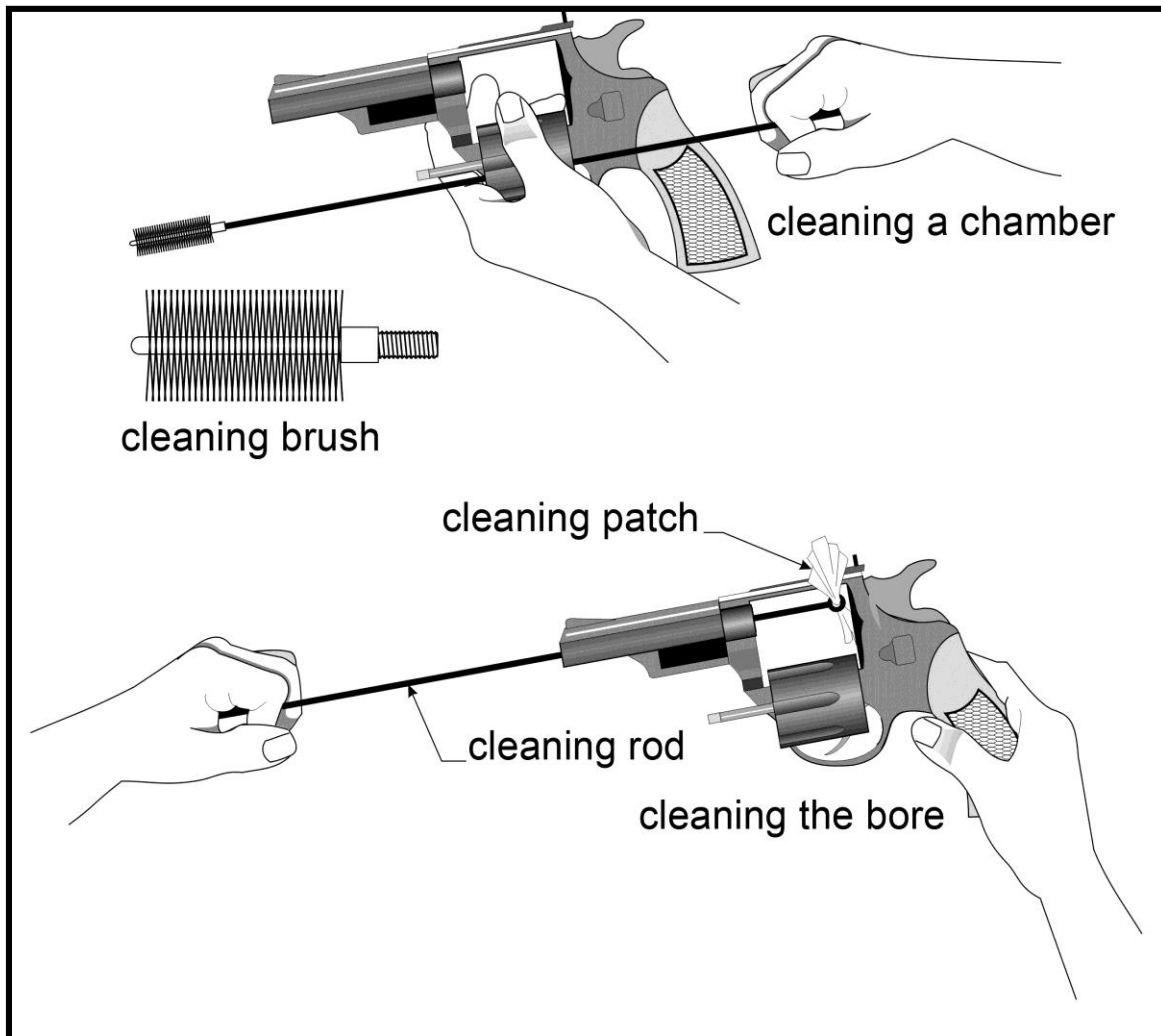

Figure 130. Cleaning a Double-action Revolver Cylinder
2. Run the brush through the bore of the barrel/chamber(s) several times. Be sure that the brush sticks out completely. Then draw it back through the barrel (Figure 130).